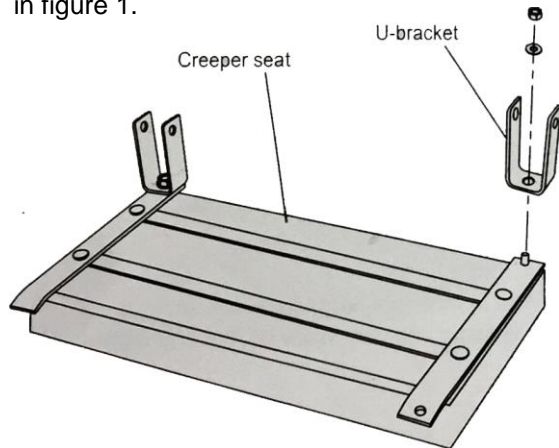

Figure 1- Attaching U-Brackets
1. Place creeper seat face down, and using one M6 nut and one washer each, attach the U-brackets as shown in figure 1.